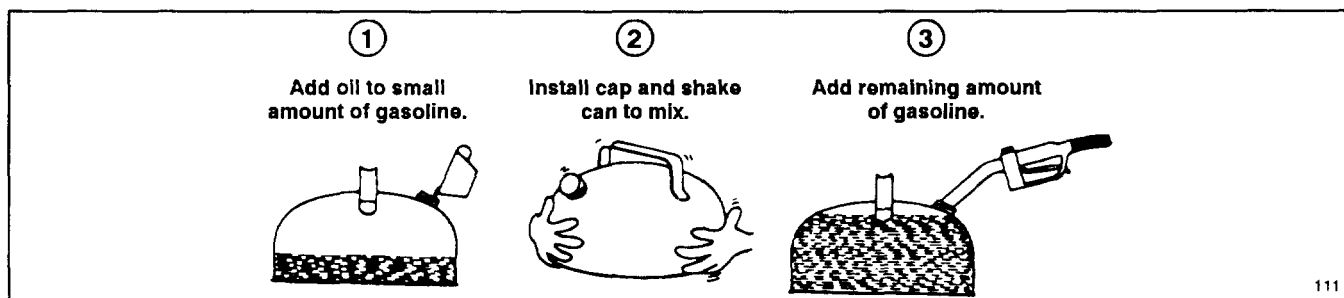

Figure 8
2. **Mixing Gasoline and Oil (Fig. 8)**—Pour correct amount of two-cycle oil into an approved gasoline container and add a half gallon of gasoline. Install cap on gasoline container and shake the container to mix oil and gas thoroughly. Remove cap and add remaining amount of gasoline.